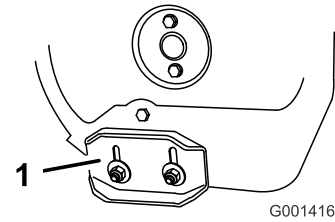

Figure 42
3. Loosen the nuts that secure both skids to the auger sides until the skids slide up and down easily (Figure 42).